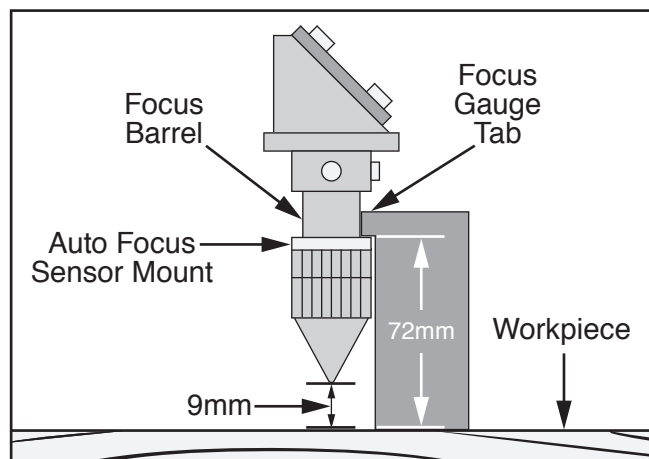

Figure 47. Focus gauge resting on workpiece and auto focus sensor mount.
8. Place bottom of focus gauge on workpiece, and raise or lower table using left and right arrow nav buttons (← and →) on control panel until tab on focus gauge rests on top of auto focus sensor mount (see **Figure 47**).